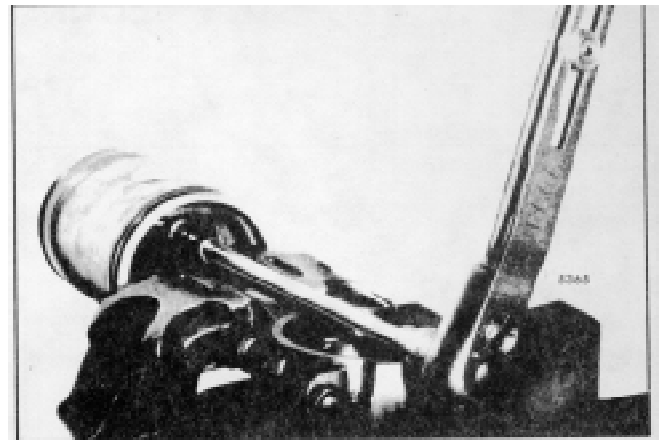

*Fig. 13 - Installing Seal Ring*
2. Lubricate the metal seal ring (Fig. 13) with engine oil and install it with the chamfer or counterbore directed toward the bottom of the piston.